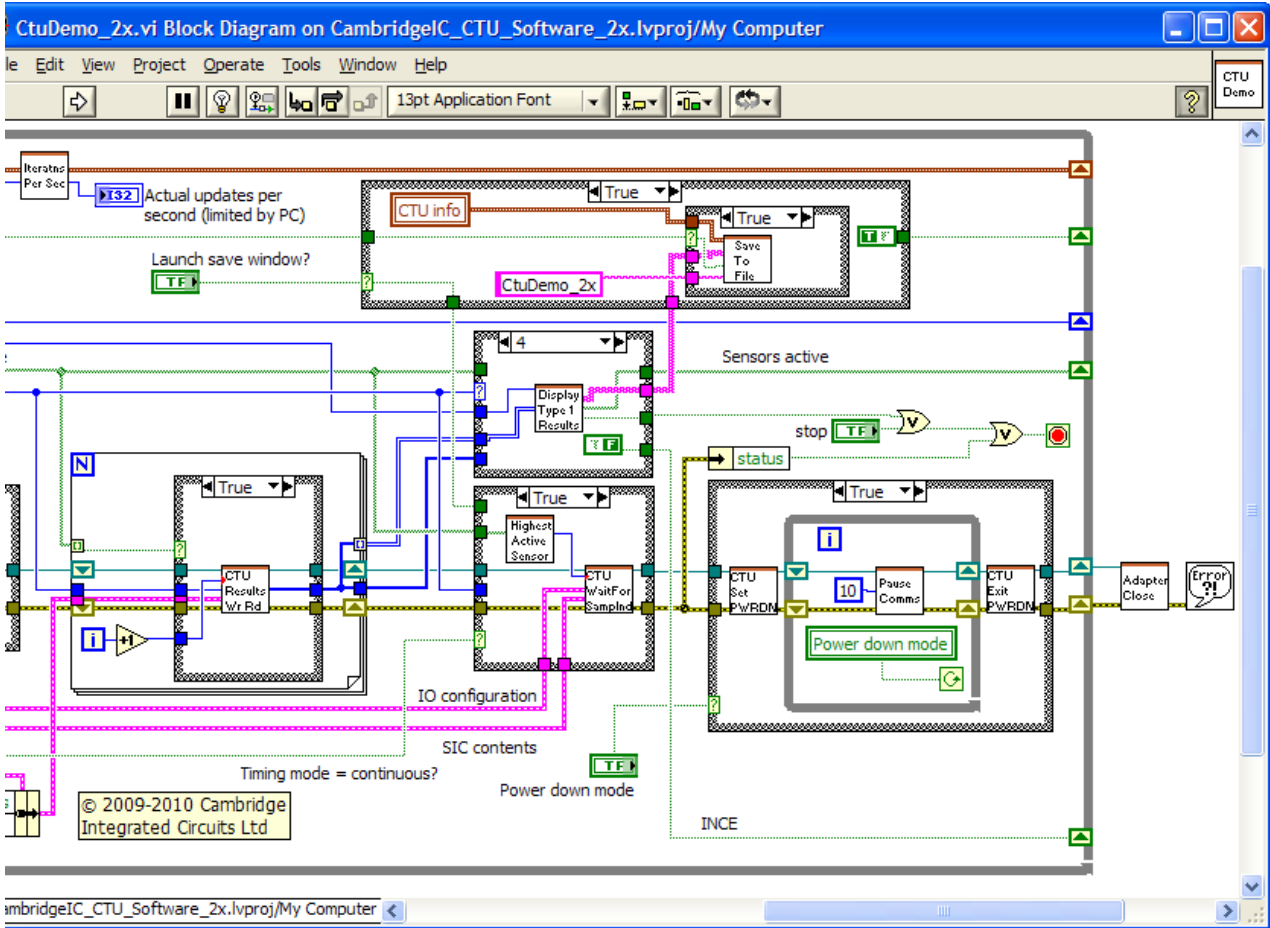

Figure 9 CTU Demo block diagram (right hand end)
The outputs of *CtuWriteReadResults* are passed to either *DisplayType1Results* or *DisplayType2Results* for display, depending on **Sensor Type**. They are shown in Figure 9. These two VIs are configured to launch when *CtuDemo* is run (right click on the VI in the block diagram, click on **SubVI Node Setup** and select **show front panel**
*CtuDemo* includes a front panel button which appears as **Power down mode** in Figure 9 and allows the user to control the CTU's PWRDN bit in its SYSCW register. This causes the CTU to cease measurements in progress and enter a low power mode. *CtuSetPwrDn* is used to enter this mode, and *CtuExitPwrDn* is used to exit.